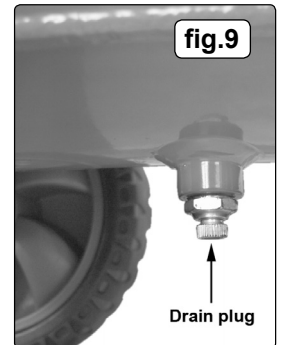

fig.9
- a) Drain condensation by opening the valve located under the tank (fig.9). Place a container under the valve and open the valve by turning anticlockwise.